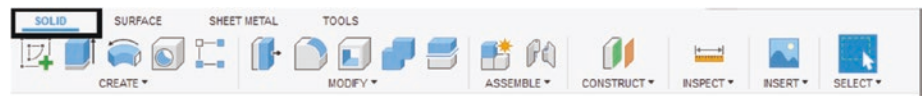

Figure 3-25. Go to the “SOLID” tab
1. Go to the “SOLID” tab in Fusion 360. See Figure 3-25.